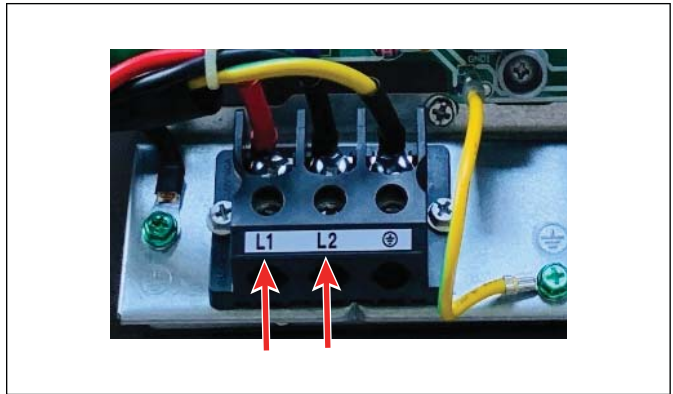

Figure 18 High Voltage Terminal Block
22. Make sure all wires are secured and not interfering with control board. Feed zip ties through holes in the E-box to secure wiring. Refer to Figure 18.